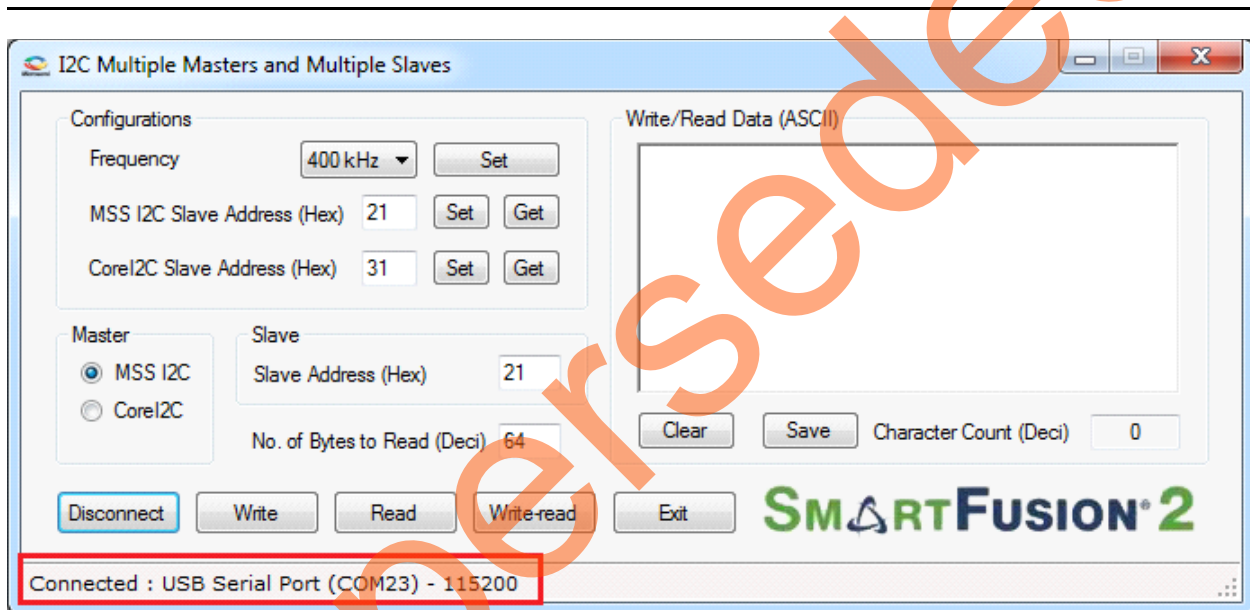

Figure 16 • M2S_I2C Connection Status
2. Click **Connect** and wait for few seconds to connect the proper FDTI COM port. The connection status along with the COM Port and Baud rate is highlighted in Figure 16. Figure 16 shows the connection status.